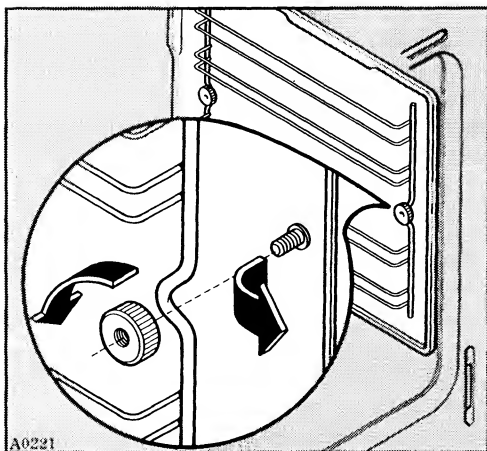

Fig. 7
1. Unscrew the ring nuts securing the side runners, and remove the runners (Fig. 7).